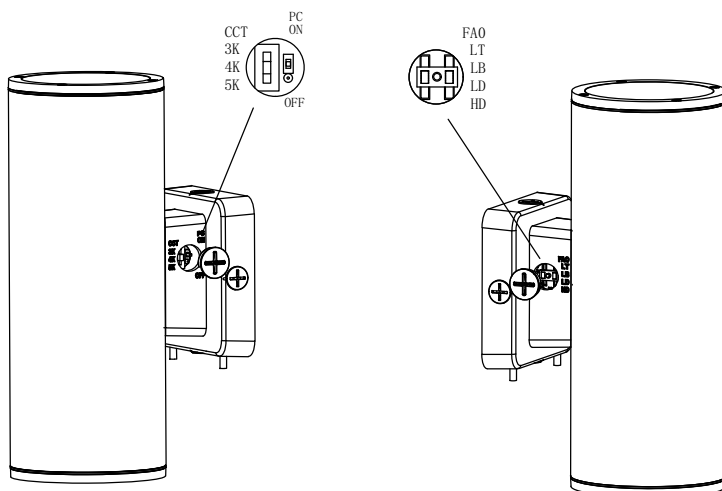
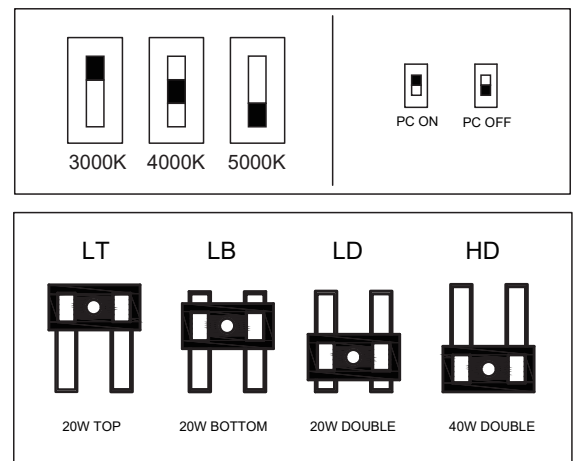

Figure 2
Figure 3
1. Remove the waterproof plugs with a cross screwdriver (by others). See figure 2.
2. Select desired wattage or CCT by the DIP switches. See figure 2 & figure 3.